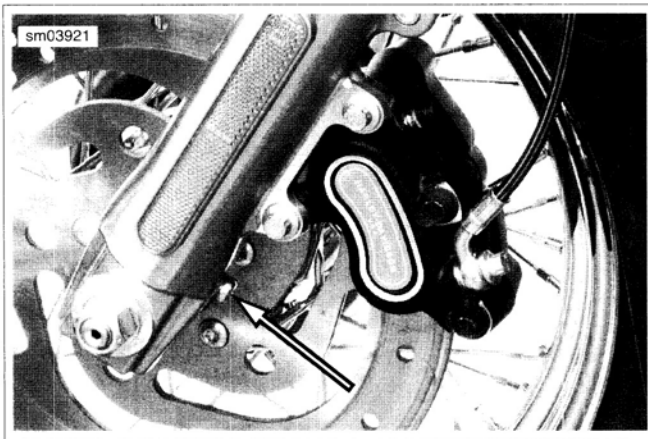

Figure 2-63. Fork Drain Screw: All Models Except FXCWC (Left Side Shown)
- b. All models except FXCWC, see Figure 2-63. Remove and discard the drain screws and washers from each fork and drain the fork oil.